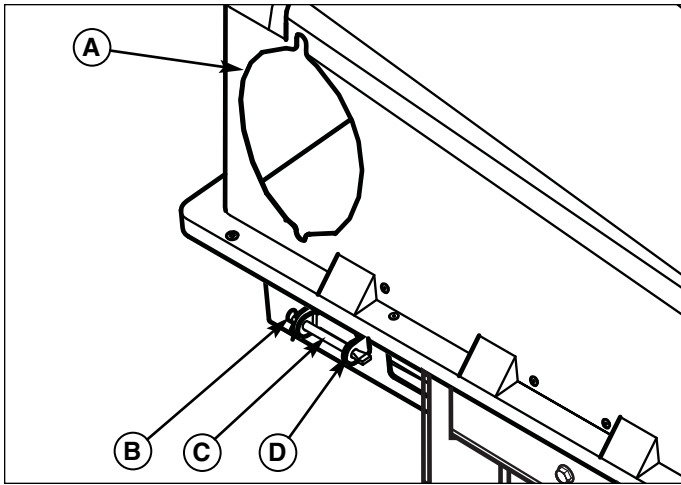

Figure 16. Remove the Cover
1. Remove the hair pin clips (B, Figure 16) and hinge pins (D) and remove the cover (A).